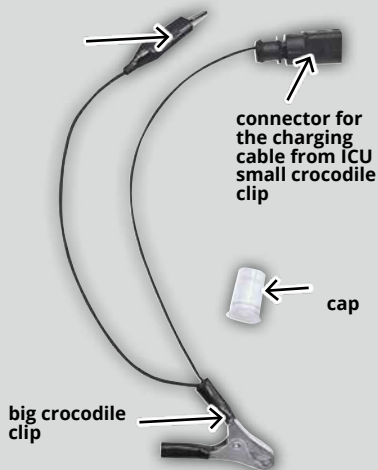

FIGURE 1
- 3) Insert the spark plug back into the spark plug boot - FIGURE 1.